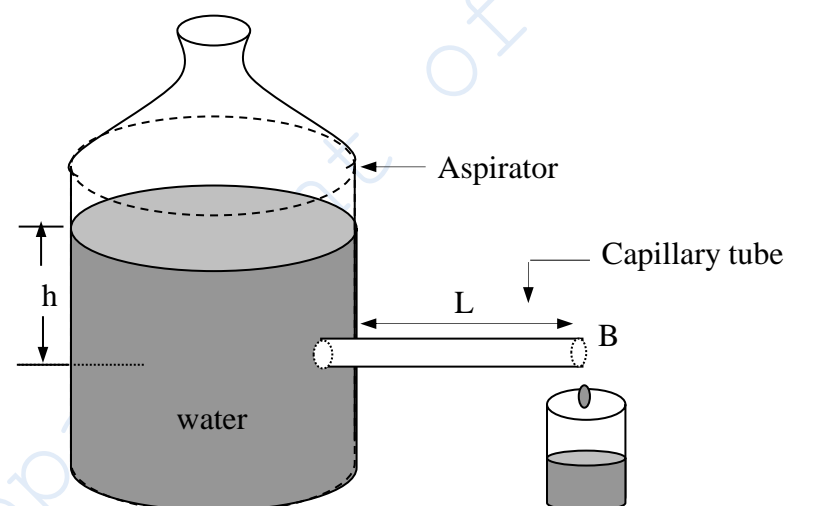

Fig. 7-1
1. Set up the apparatus as shown in Fig 7-1.
6. Measure the length (L) of the capillary tube. Measure the diameter (d) of the capillary tube using the travelling microscope. Remember to level the microscope before use. A separate capillary tube is provided for this purpose. Do not remove the one fixed to the aspirator.